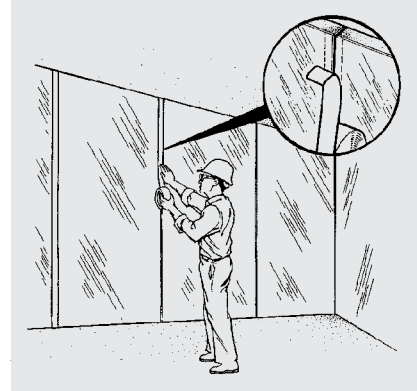

Figure 4
5. Cover seams between insulation boards with aluminum or white foil tape (Figure 4). Before applying tape, wipe the application area with a damp cloth to remove foam dust. Allow surface to air dry. Use a squeegee or soft paint roller to press the tape firmly to the joint. Cut tape with a knife or scissors. Do not tear tape.